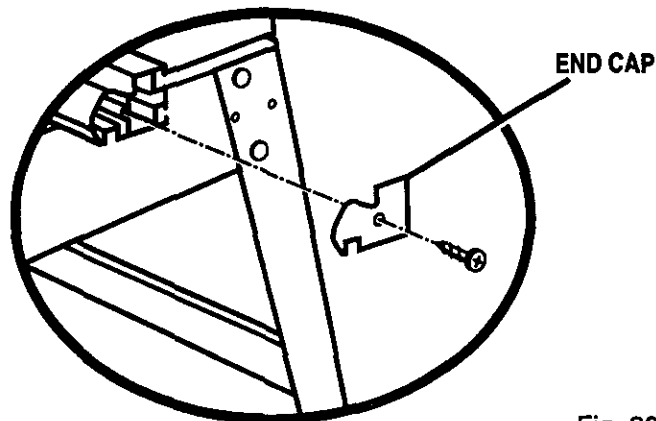

Fig. 20
- Attach the rail end caps and screws with a phillips screw driver. See *Figure 20*.